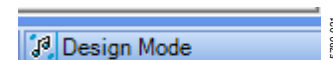
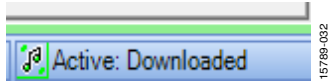

Figure 29. Design Mode and Blue Status Bar
Figure 30. Active Downloaded Mode and Green Status Bar
- The status bar turns from blue to green and the mode displayed changes from **Design Mode** to **Active: Downloaded** in the lower right corner of the window (see Figure 29 and Figure 30). Until this point, SigmaStudio is in design mode, as denoted by the blue bar at the bottom of the screen and the words **Design Mode** displayed in the lower right corner of the SigmaStudio window (see Figure 29).